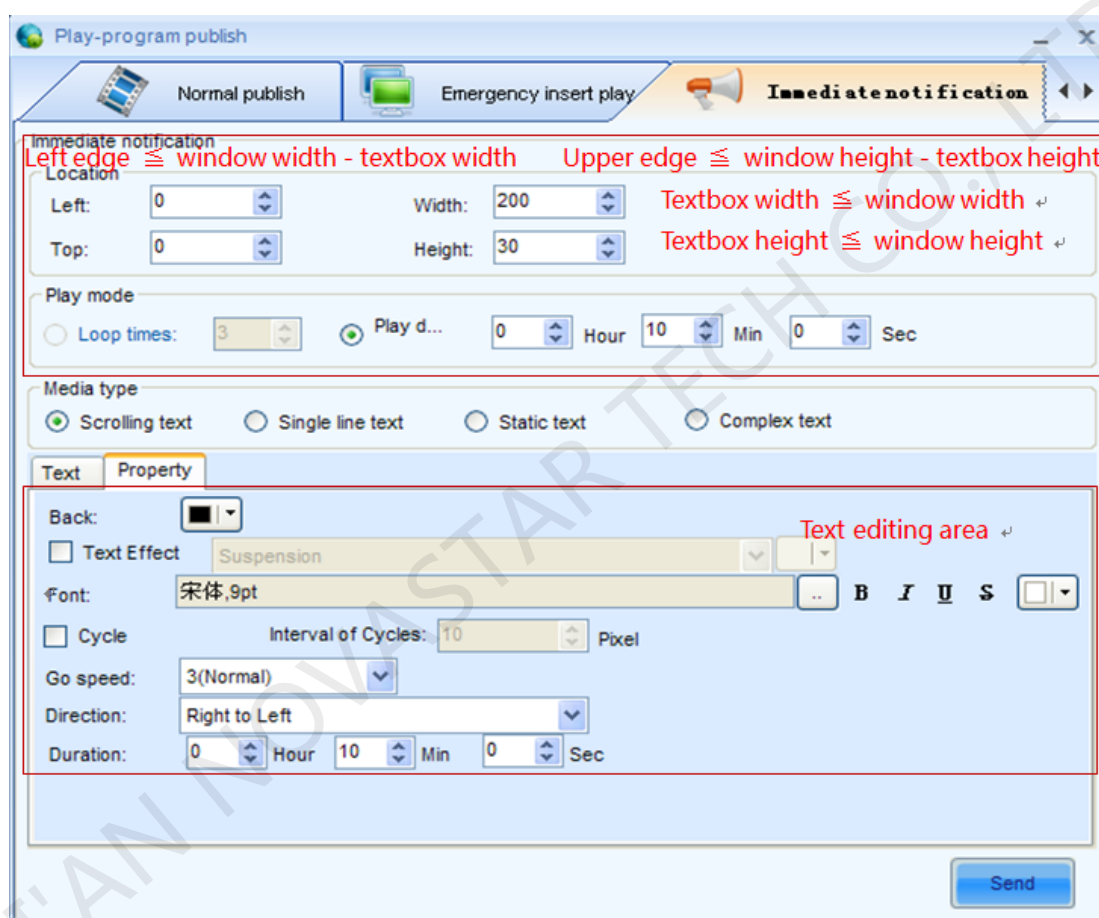

Fig. 10-75 Immediate notification page
- 1) Edit textbox size, coordinates, content, and text format in immediate notification page of Fig. 10-75;